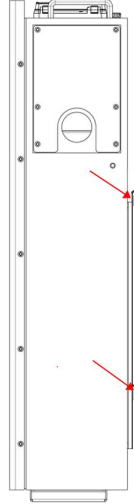

Figure 5-3
- g) Carry the battery and holding it, and fix the battery on the plate after fixing the hanging plate to the wall. Ensure that the upper and lower positions of the battery backplane hook are accurately buckled on the hanging plate, as shown in Figure 5-3.